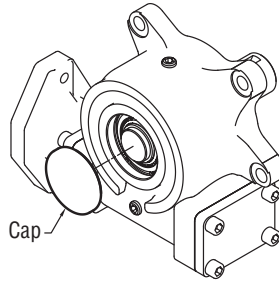

Figure 5-9, Output Shaft Cap
8. The output shaft fits tightly, so you may need to remove the cap on the back of the gearbox and lightly tap the end of the output shaft with a rubber mallet to remove it. (Figure 5-9)